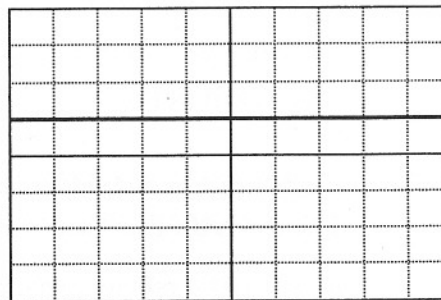

Figure 2
- Adjust VR208 until get one sweep. (See fig 2)